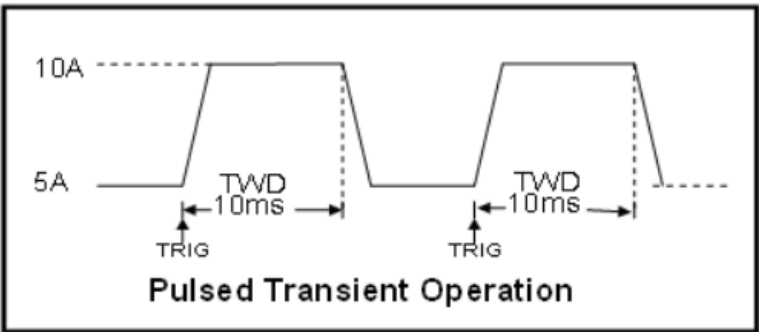

Figure 7-2-3 Pulsed Transient Operation
- Pulse mode: the electronic load uses the low value to load at first, and then the electronic load switches to the high value when it receives a trigger signal for each time. After maintaining the set time, the electronic load switches to the low value. The electronic load only toggles once when it receives a trigger signal for each time, so there's no need to set the time of the low range. The pulse mode interface is shown in Figure 7-2-3.